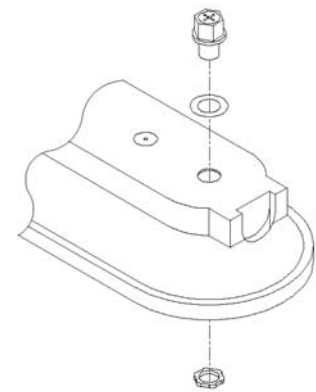

Fig 2
2. Install wet location fitting per Fig 2.